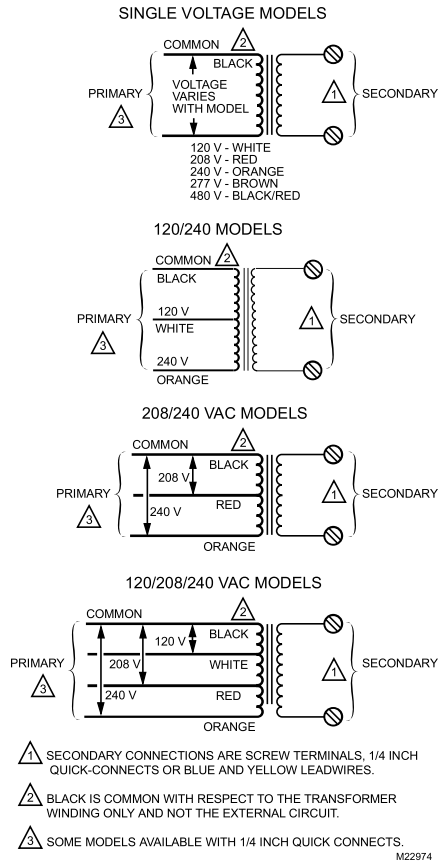

Fig. 6. Schematics for single and multitap transformers.
1. Make primary connections to the line voltage power supply. On multitap models, be sure to use correct leads for available power supply. See Fig. 6.